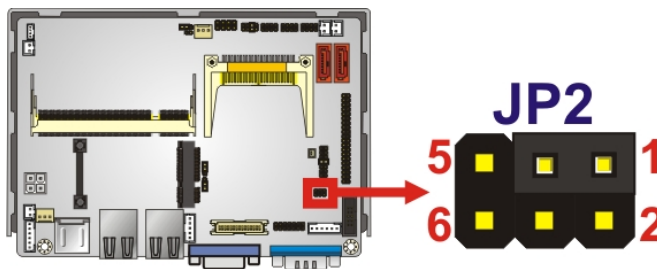

Figure 4-9: COM 1 Pin 9 Setting Jumper Location
- Jumper Location:** See Figure 4-9